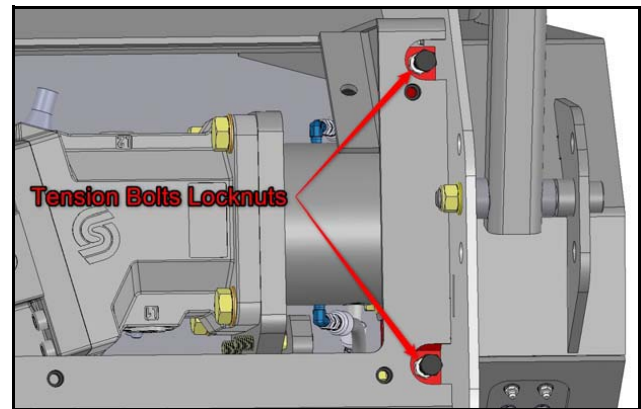

Figure 16
- d. Tension Bolt Locknut: light lock **[Figure 16]**